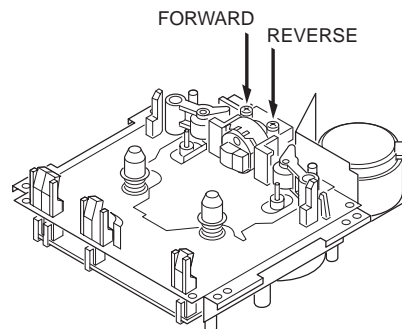

Fig.1
4. Use a + tip screwdriver to turn the screw for normal azimuth adjustment so that the left and right outputs are maximized at the same phase during normal playback. See Fig.1.